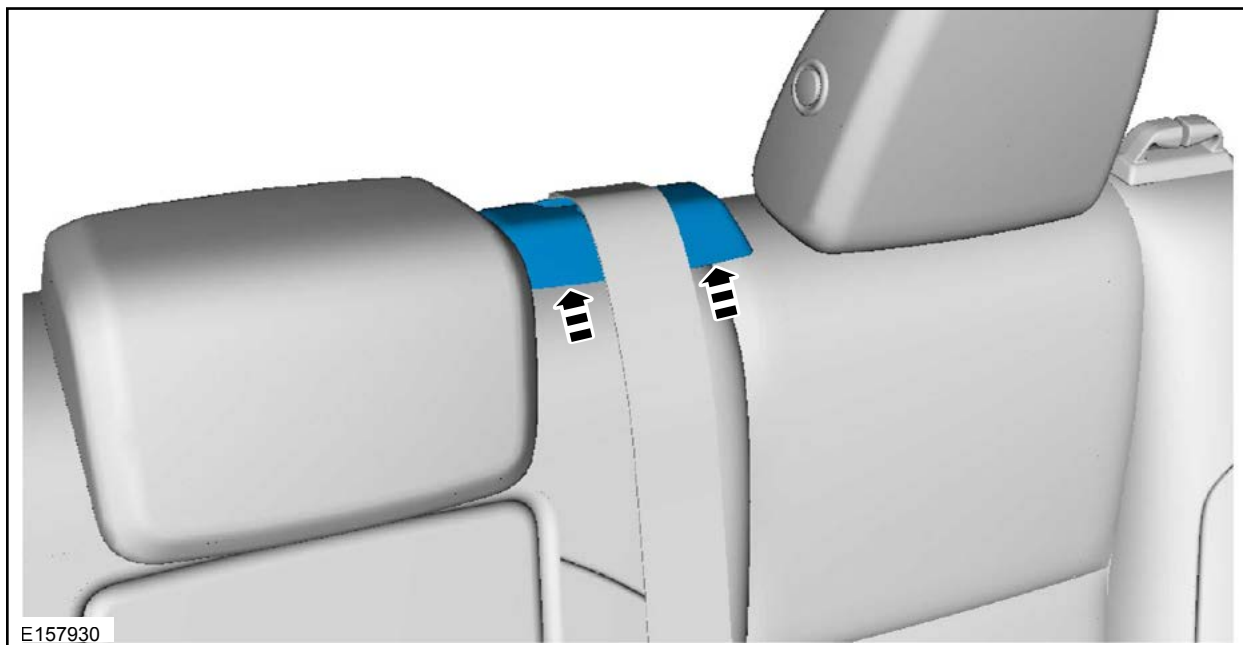

FIGURE 1
3. Remove the rear center seatbelt guide bezel. See Figure 1.